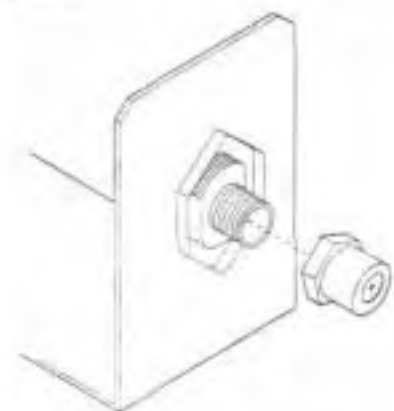

Figure 39
To derate this unit, order and install the appropriate high altitude orifice kit per the chart below. Remove two (2) screws found at the base of the burner tray and remove the burner tray with tube. Use care to prevent damage to the orifice adjustment rod. Remove the orifice (Figure 39) and replace with the appropriate one from the kit. Refer to the following chart. Be sure to attach the conversion sticker provided with the kit to the rating plate on the appliance.